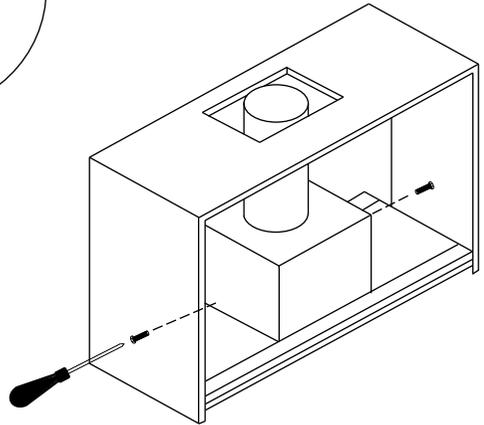

Fig 12
10. Fix the motor casing to the motor (Fig 12).